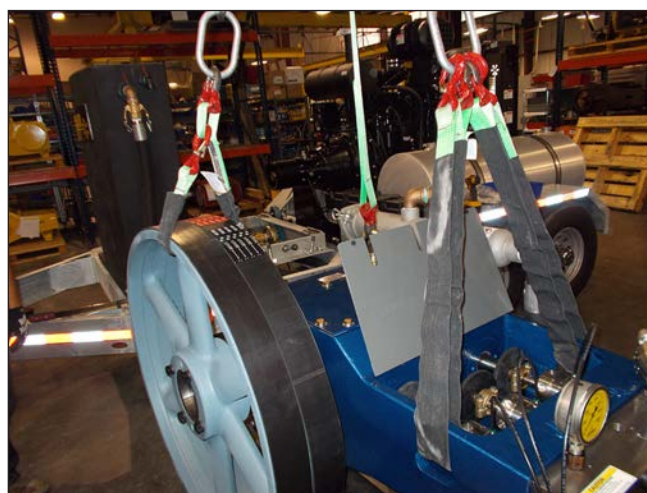

Figure 173: Lifting the Pump.
8. Attach a hoist and lifting apparatus to the pump as shown in (Figure 173). The weight of the pump is approximately: